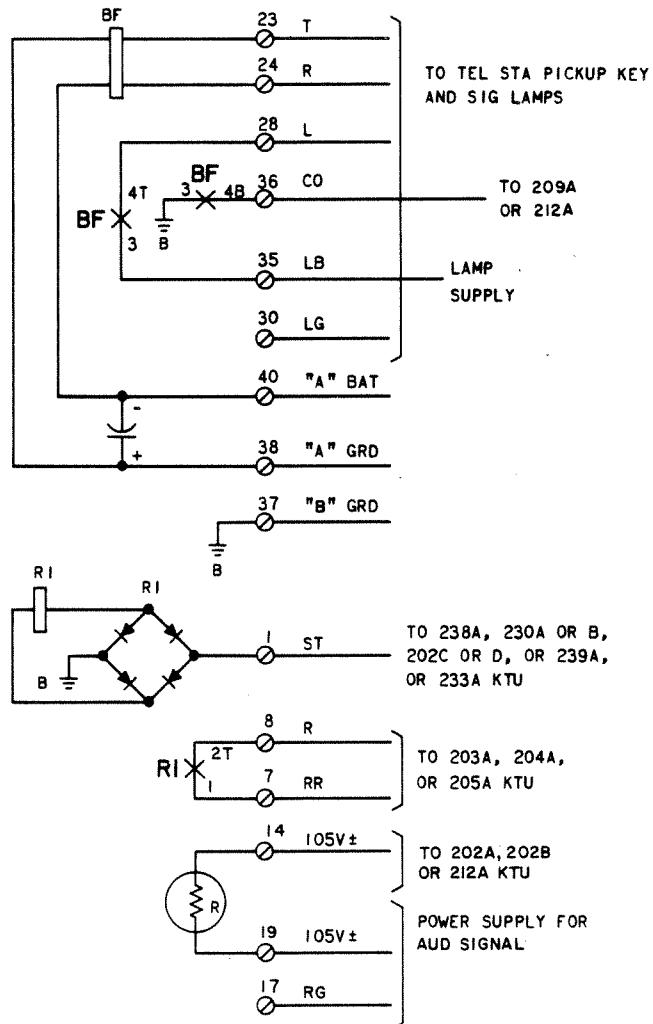
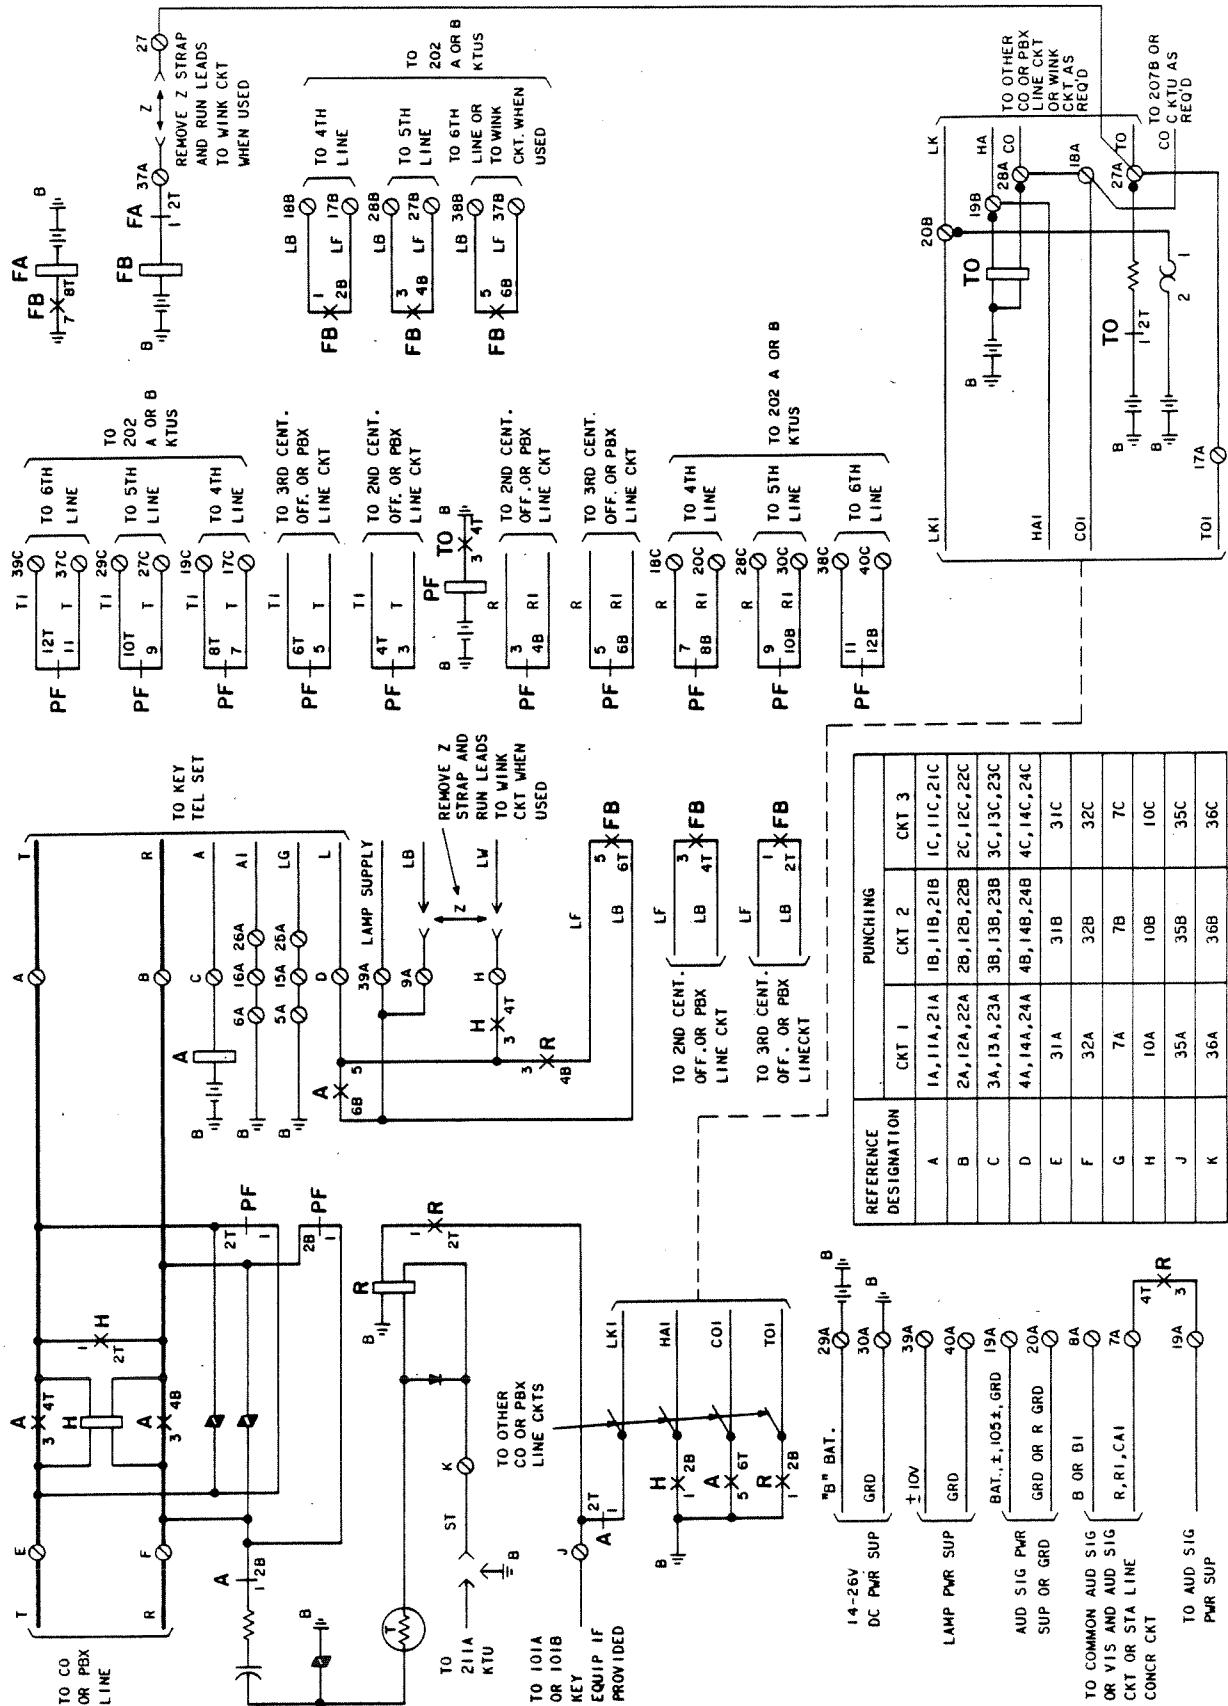

Fig. 12—Functional Schematic of 211A KTU (Intercom Line Circuit, Ringing Lamp Circuit, Noise Suppression Circuit, and Audible Signal Control Circuit)
Fig. 13—Functional Schematic of 212A KTU (MD) (CO or PBX Line Circuit With Lamp Flashing and Incoming Signal Time-Out Circuits)◆
2.15 The 211A KTU (Fig. 12) is used on intercom lines to provide:
K. 212A KTU (MD) (CO or PBX Line Circuit With Lamp Flashing and Incoming Signals Time-Out Circuits)
2.16 The 212A KTU (Fig. 13) provides line pickup on three CO or PBX lines and common equipment for up to six lines.